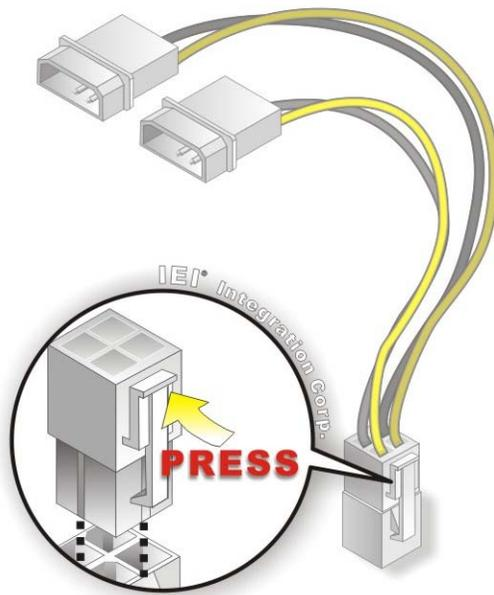

Figure 4-15: Power Cable to Motherboard Connection
Step 2: **Connect the Power Cable to the Motherboard.** Connect the 4-pin (2x2) Molex type power cable connector to the power connector on the motherboard. See Figure 4-15.